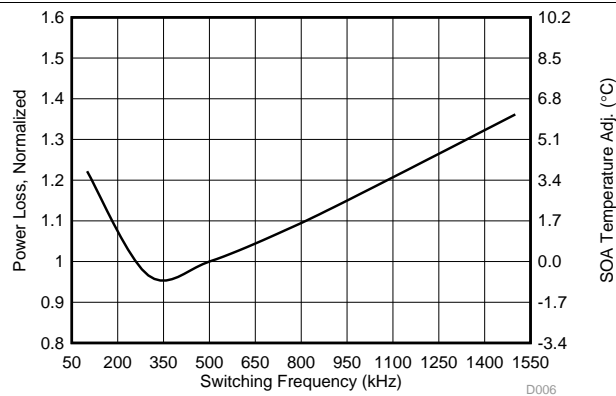

Figure 5. Normalized Power Loss vs Switching Frequency
- Normalized power loss for switching frequency  $\approx 1.08$  (Figure 5)